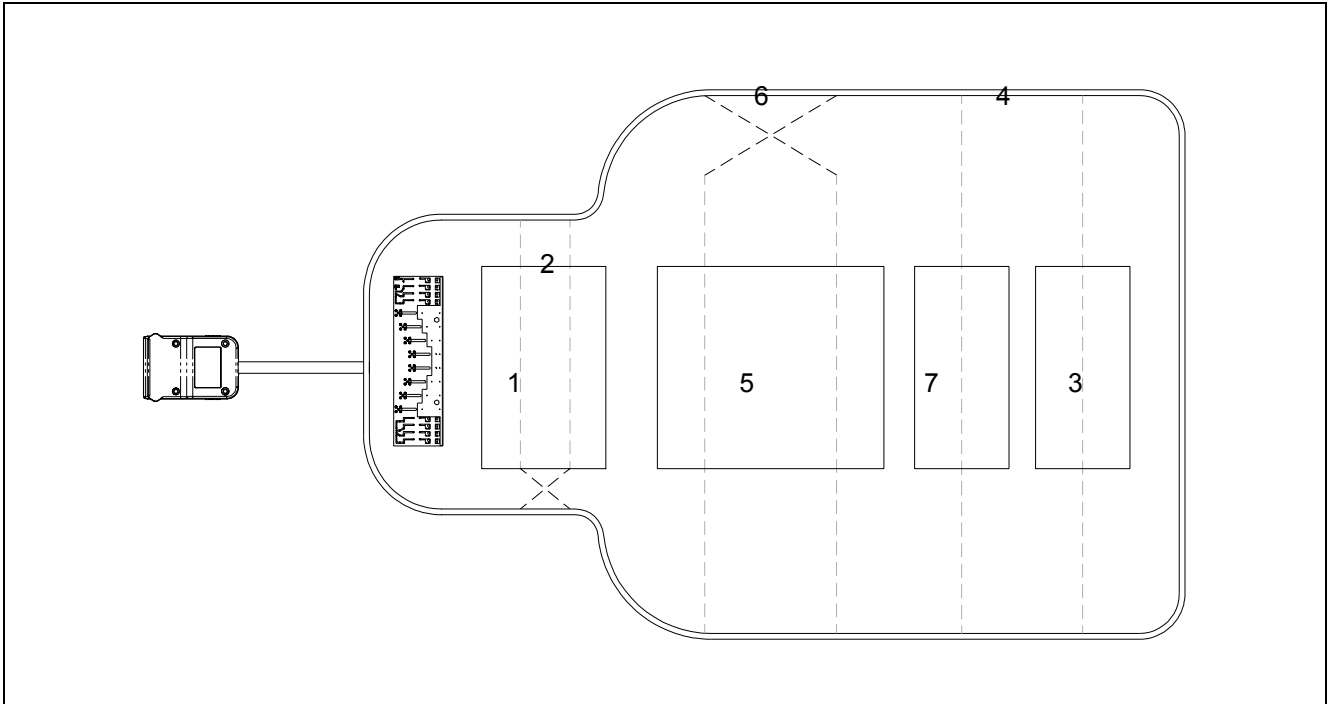
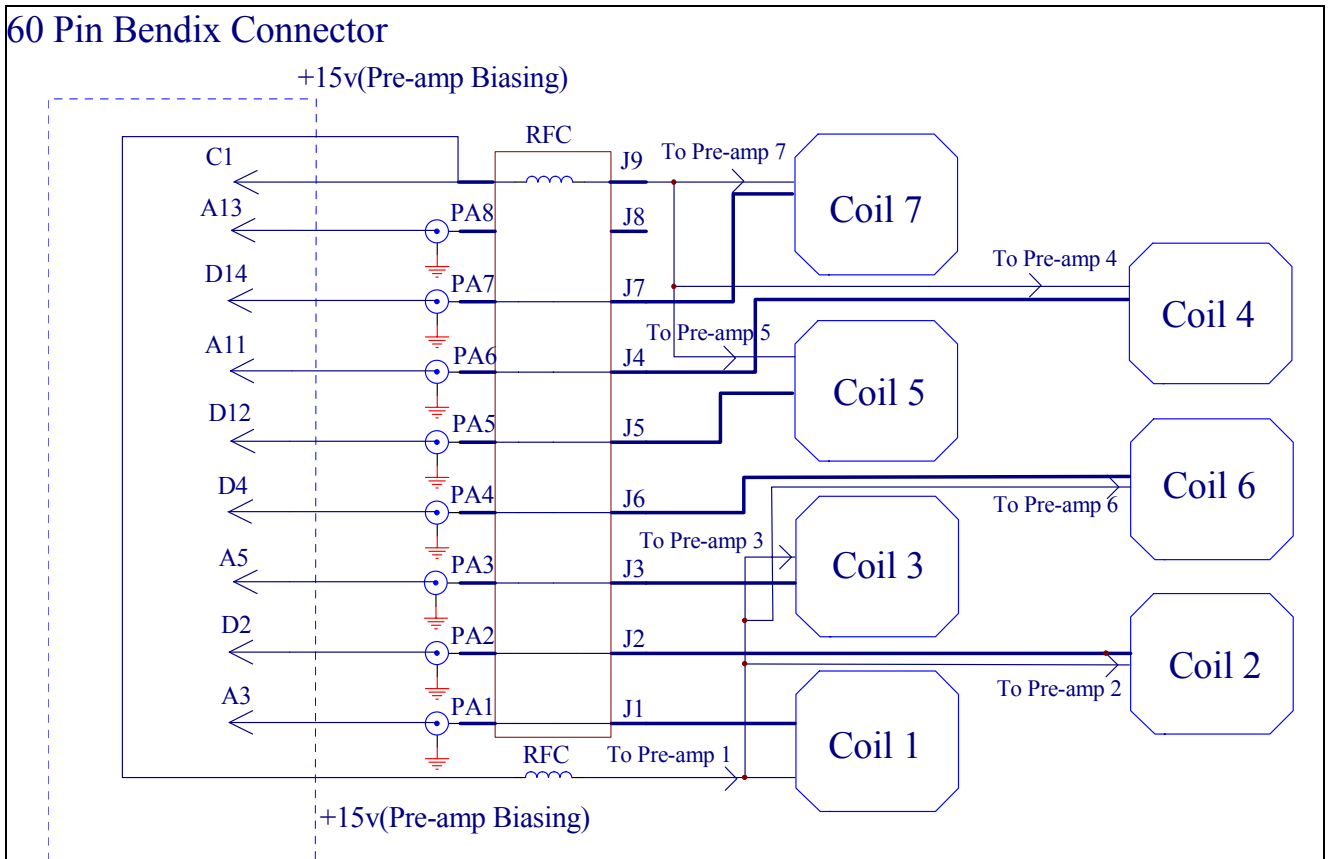

Figure 3: Block diagram of the coil.
Figure 4: Block diagram of the circuit layout.
The block diagram of the Magna 5000 Phased Array CTL Spine Coil is shown in *Figure 3* and the block diagram of the circuit layout is shown in *Figure 4*. Also refer to the schematic in the Appendix. The coil is designed for obtaining diagnostic images of the whole human spine, specifically: cervical, thoracic and lumbar. The coil consists of: (1) a main coil base for imaging the entire spine, (2) a removable anterior neck and (3) three "bridges" consisting of coil elements for enhanced imaging of the thoracic and lumbar spine. The coil has an array of seven coil elements. These coil elements are arranged primarily as saddle and loop coil configurations. Depending on the anatomy imaged, the user is able to select different imaging modes to selectively image the spine anatomy. The modes are enabled by the clinical user at the console.